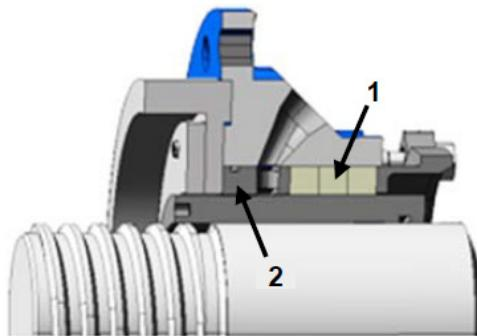

Figure 9-1: Throat Bushing Design
- **Throat Bushing:** (Figure 9-1; 1 is the packing, and 2 is the throat bushing.) Standard for GIW/KSB's LSA-style pumps (including MDX), this design produces a throttling effect that restricts seal water flow in the pump while maintaining pressure and flow at the packing rings. This design reduces the amount of water that enters the process flow while providing an easy-to-maintain stuffing box assembly.